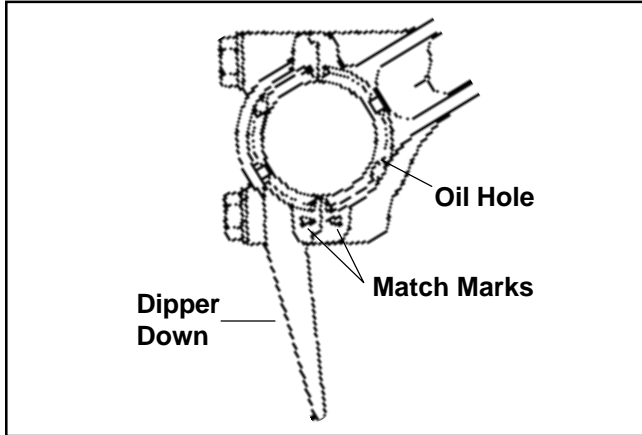

Figure 11-11. Connecting Rod Details.
- b. The connecting rod offset is down and oil hole is in the 3 o'clock position. Match marks should align as shown with dipper down. See Figure 11-11.